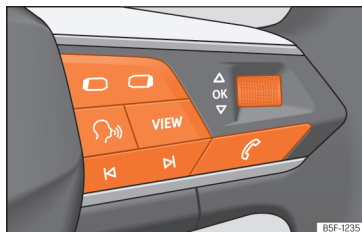

Fig. 63 Right side of the multifunction steering wheel: buttons to the menus and information displays on the instrument panel.
menu. Some warnings can be confirmed and hidden with the button **OK** of the multifunction steering wheel »» **Fig. 63**.
- If a message or vehicle symbol is displayed, press the button **OK** »» **Fig. 63**; if necessary, several times.
- To change menu, use buttons  or  »» **Fig. 63**.
- To open the menu or the information displayed, press the button **OK** »» **Fig. 63** or wait a few seconds until the menu or the informative display opens automatically.
- In the menu displayed, turn the right thumb-wheel of the multifunction steering wheel »» **Fig. 63** until the desired option of the menu is highlighted. The option appears framed.
- Press the button **OK** »» **Fig. 63** to make the required modifications. A mark indicates that the system or function is activated.
Press the button  or  »» **Fig. 63**.